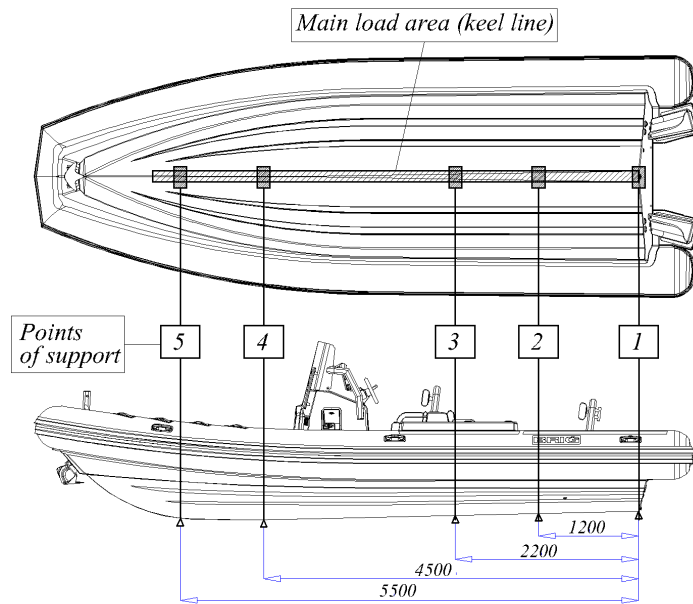

Fig.16
Installed on a trailer (or on keel-blocks for storage) the boat should be laying on all surface of the **Main loading area (keel line)** (Fig.16). It is possible to install the boat on **Points of support**. Thereby the **Point of support (1)** must be an obligatory, and the any other **Points of support** must be an additional. Lateral roller supports on the trailer can be used only with a view of prevention from tipping.